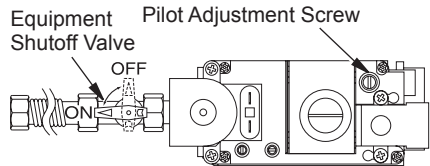

Figure 42 - Turning Equipment Shutoff Valve to the OFF Position
5. Turn equipment shutoff valve clockwise  to the OFF position (see Figure 42). Do not force.
6. Wait five (5) minutes to clear out any gas. Then smell for gas, including near the floor. If you smell gas, STOP! Follow "B" in the safety information in column 1. If you don't smell gas, go to the next step.
- Turn the adjustment screw marked PILOT clockwise to decrease or counterclockwise to increase the flame to proper size (see Figure 42, page 28). Do not remove the adjustment screw.